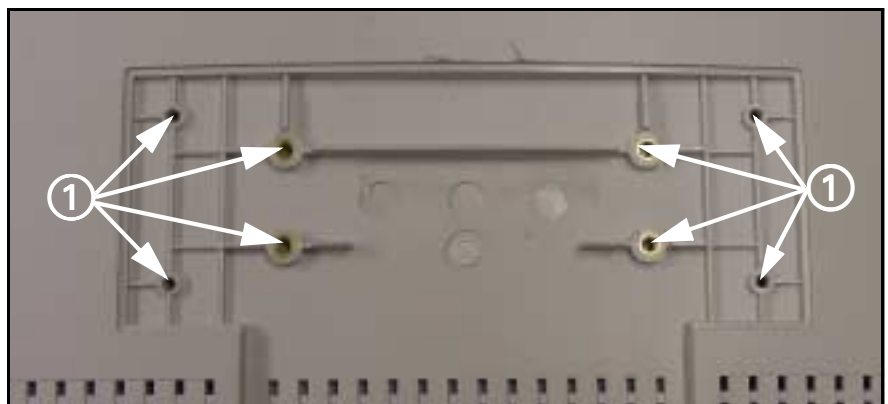
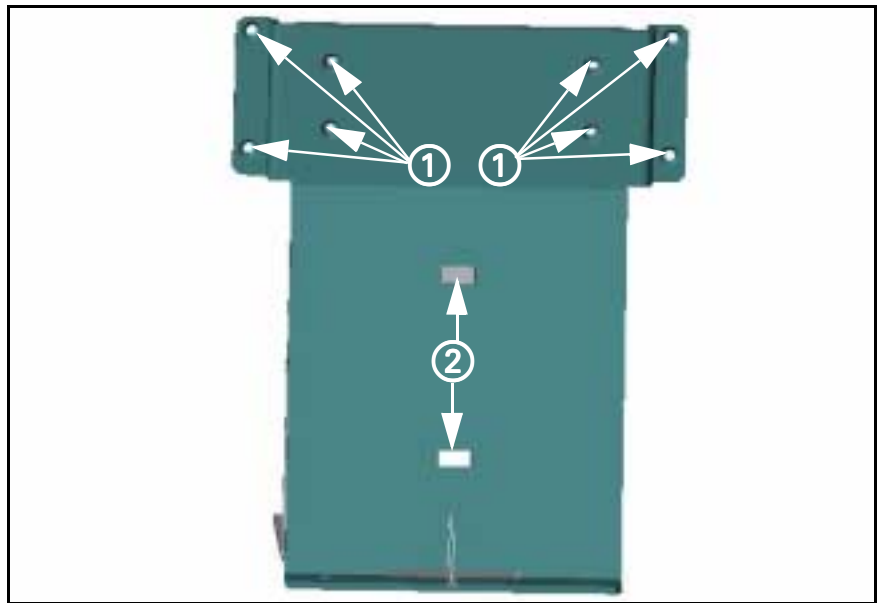

Figure 10-2 Flat Screen Display Mounting Bracket Screw Holes(rear view)
Figure 10-3 Flat Screen Support Mount
6. Align eight support mount clearance holes (① in Figure 10-3) to threaded holes on back of flat screen display (① in Figure 10-2).
8. Insert one cable tie (supplied) through back of each slot (② in Figure 10-3) to enable power supply to be secured to support mount.